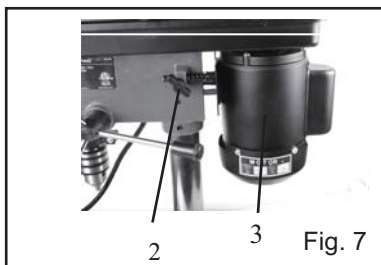

Fig. 7
Install the belt (see Fig. 6 and Fig. 7).
2. Loosen the belt tension knob (2) (see Fig 7).
3. Pull the motor (3) (see Fig. 7) toward the drill press head.
5. Pull the motor away from the drill press head to increase the belt tension. Tighten the tension knobs (2) (see Fig. 7).